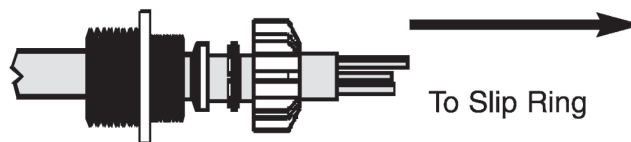

Figure 4-13
2. Secure the watertight connector. Jacketed cable should intrude 4-5 inches into the drum. Smaller watertights are secured using a Bridgeport sealing nut. **See Figure 4.13.**